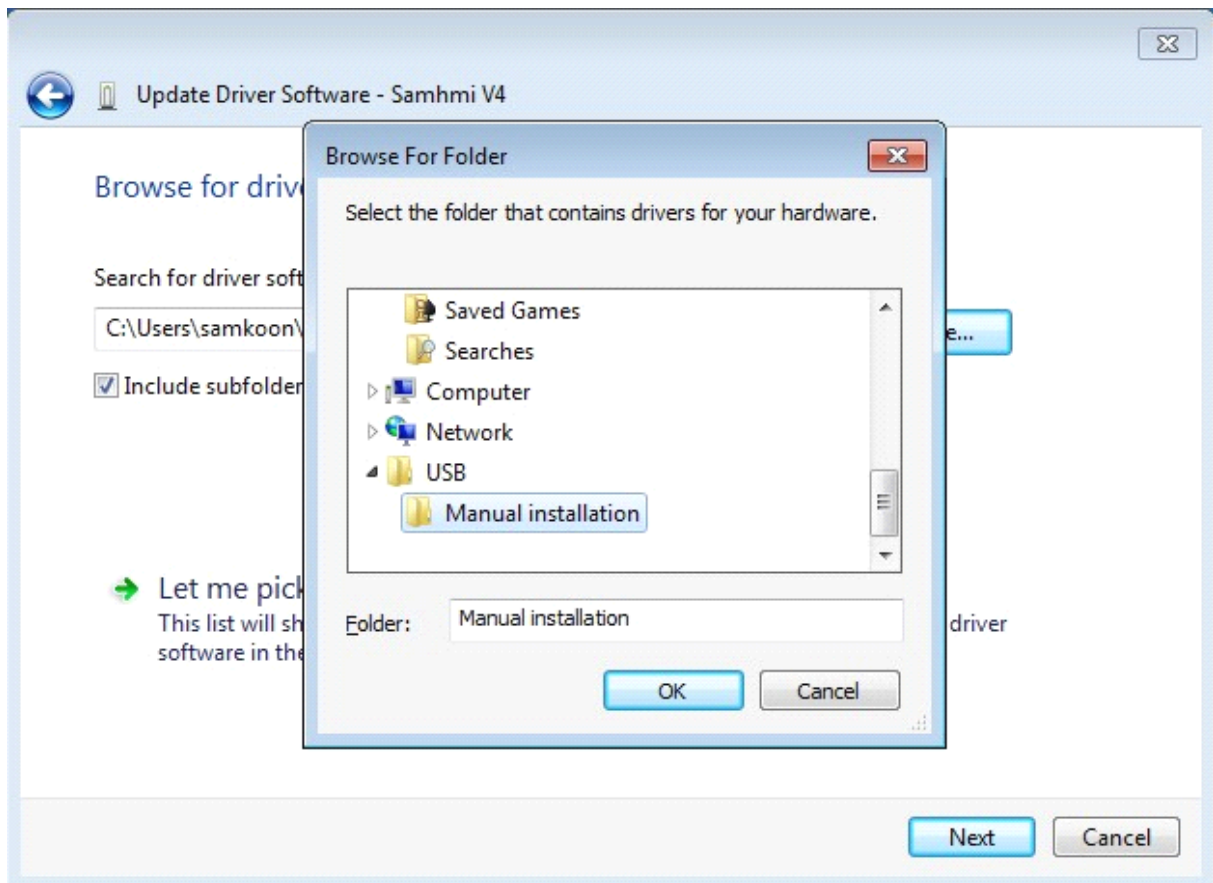

Figure 2-23: Manual installation selecting page of VISTA
- Then, view “Manual installation” directory, and click “next”. See Figure 2-23.